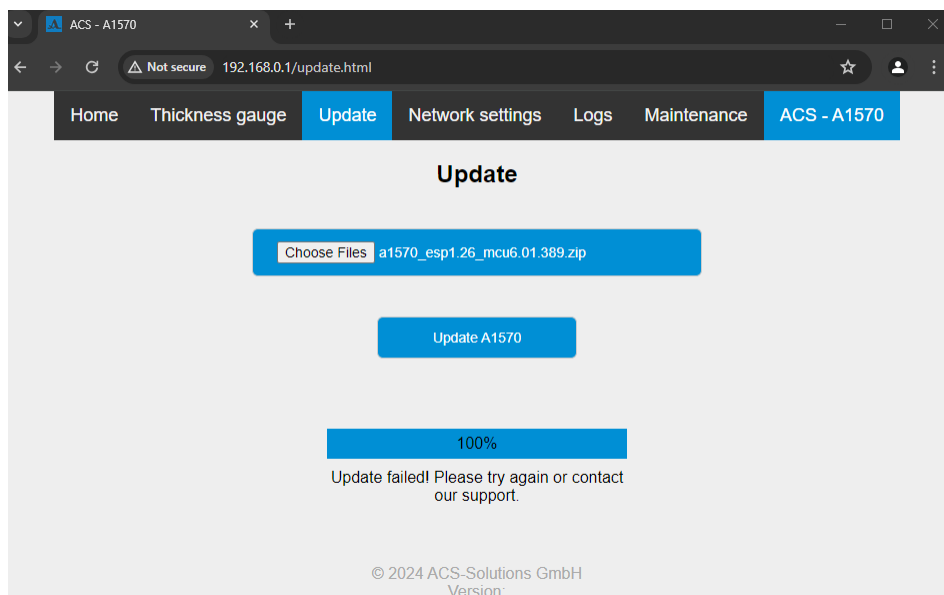

Figure 17: Updating failure
- The user will receive a notification indicating the failure (see Figure 17²⁵).